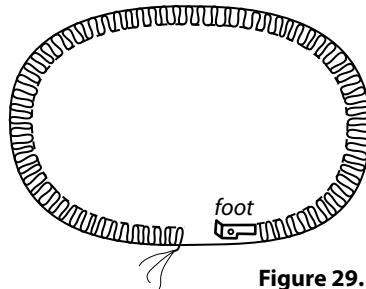

Figure 29.
3. Place the fabric under the presser foot with the fabric resting against the knife blade. Position the thread on the bottom of the fabric and to the left of the presser foot. Lower the presser foot and begin sewing, trimming just a very small amount (a “hair”) of the fabric. Stop serging just before the knife reaches the beginning stitches (Figure 29).